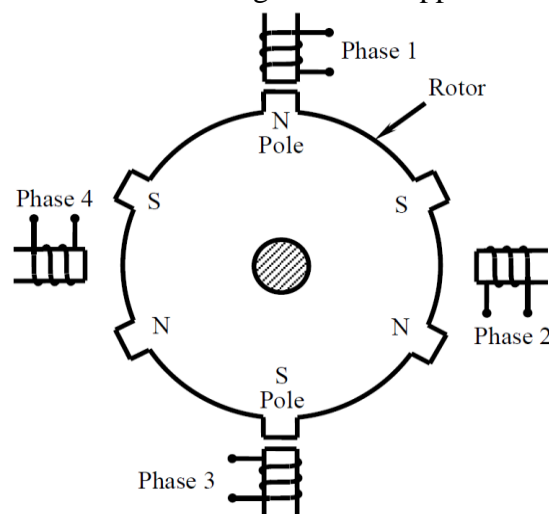

Figure P8.9: Schematic diagram of a stepper motor.
8.9 Figure P8.9 shows a schematic diagram of a stepper motor.